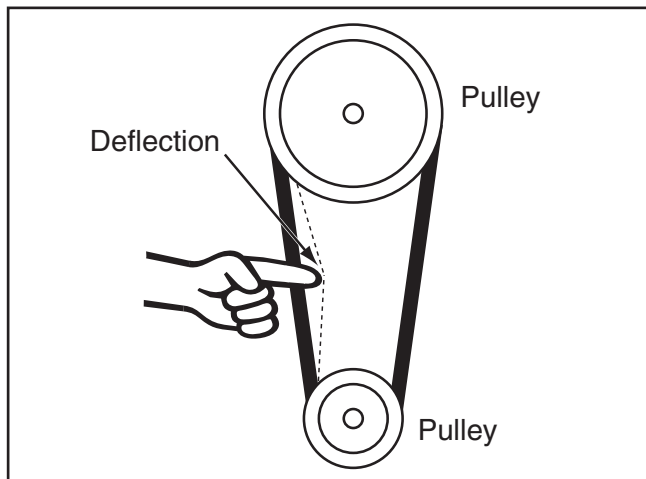

Figure 10. Measuring V-belt deflection.
5. Position the belt housing assembly so there is about $\frac{1}{4}$ " V-belt deflection when moderate pressure is applied to the V-belt between the pulleys (see **Figure 10**)—then fully tighten the cap screws to secure the belt housing assembly in place.